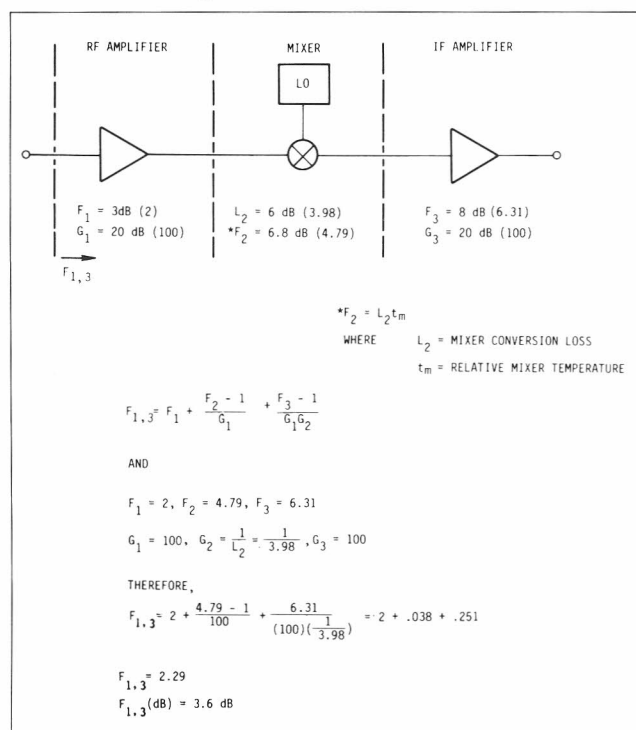

FIGURE 6. System Noise Figure Calculations
All the above calculations assume that the input is terminated in a matched load whose physical temperature is 290 K. An example of a noise figure analysis for a superheterodyne receiver is shown in Figure 6. The mixer conversion loss can be used in equation (8) ($G_2 = 1/L_c$ where L_c is the conversion loss of the mixer). In most system calculations, the equivalent antenna temperature is generally not 290 K, making system operating noise figure calculations cumbersome. As will be shown, this becomes a relatively simple calculation to perform when noise temperature is used instead of noise figure.